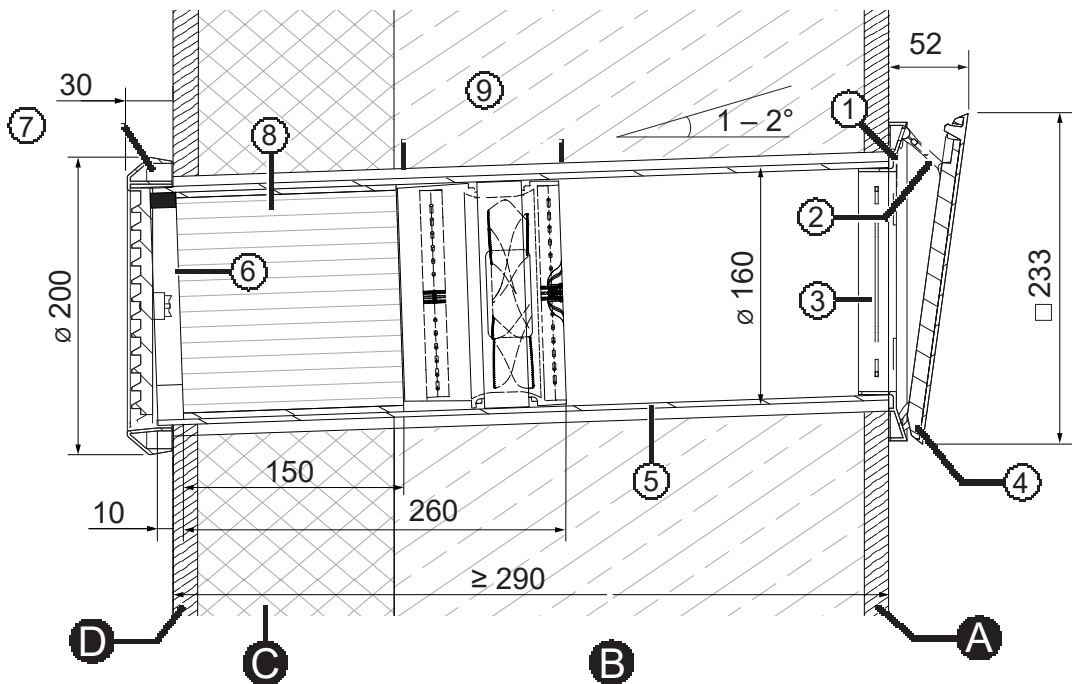

Figure 2: Sectional drawing iV-Light (side view)
- 1 Wall opening (Fig. 2, left)
Simplex installation system (Fig. 2, right)